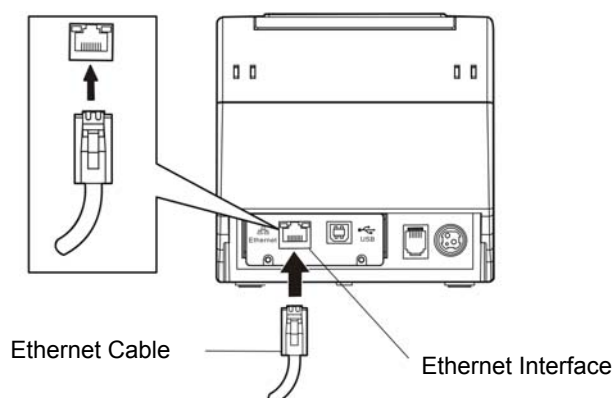

Figure 2-6 Connecting the Ethernet cable
1. Plug the crystal end of the Ethernet cable (RJ-45) into the printer's Ethernet interface as shown in Figure 2-6.